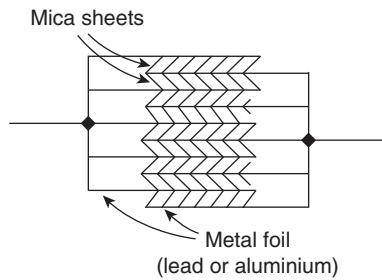

Figure 6.15
2. **Mica capacitors.** A typical older type construction is shown in Fig. 6.15.